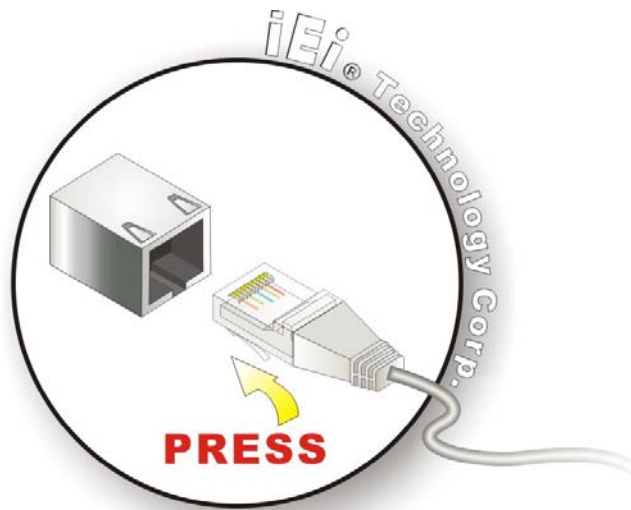

Figure 3-34: LAN Connection
- Step 2: Align the connectors.** Align the RJ-45 connector on the LAN cable with one of the RJ-45 connectors on the PPC-51xxA-H61. See **Figure 3-34**.